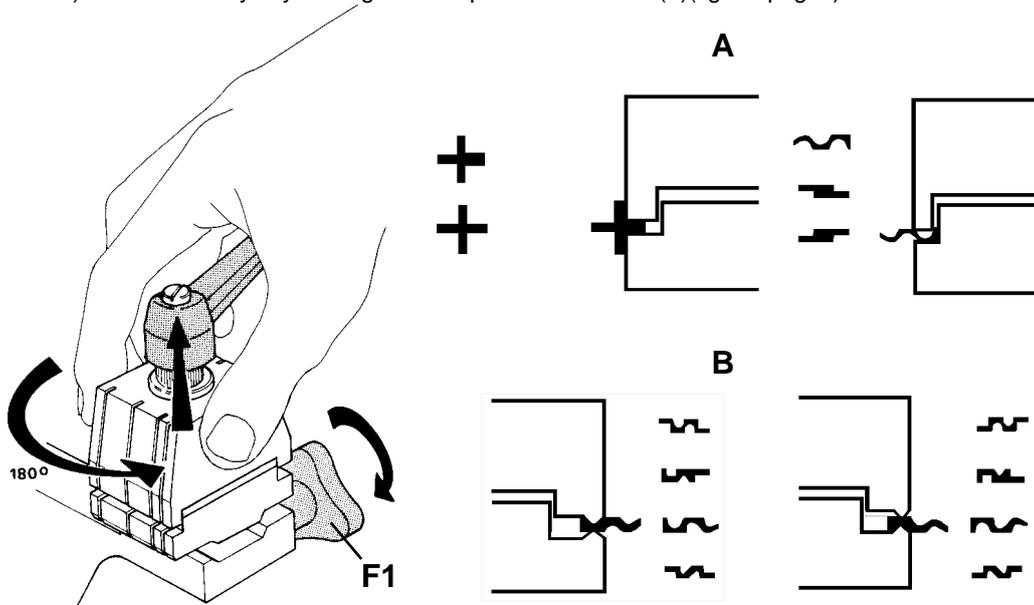

Fig. 9
- 1) Turn the clamps to find the appropriate side for securing the key (fig. 9-B)
- 2) Loosen the knobs (F1) by a couple of turns (fig. 9-A).
- **Side A of the clamp:** for keys to be fitted on their backs (fig. 9-B);
- **Side B of the clamp:** for keys to be cut on both sides and locked on the groove (fig. 9-B).